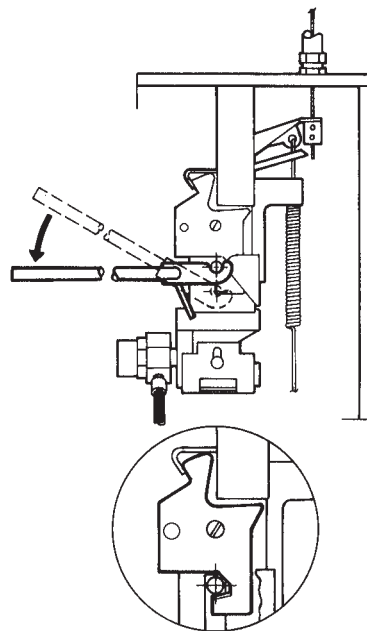

FIGURE 8-5
- ▶ 18. Cock the regulated release mechanism using cocking lever (Part No. 14995 or 435603/Part No. 441042 or 441041). See Figure 8-5.